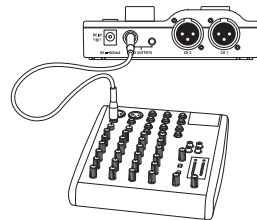

Figure 2
3. With your amplifier or mixer powered off and volume control down connect the RXD2M receiver Channel 1 output jack to the mic or line input using the balanced XLR output, unbalanced 1/4" or 1/8" output jacks. Turn the RXD2M power on but keep the volume at minimum level (figure 2).